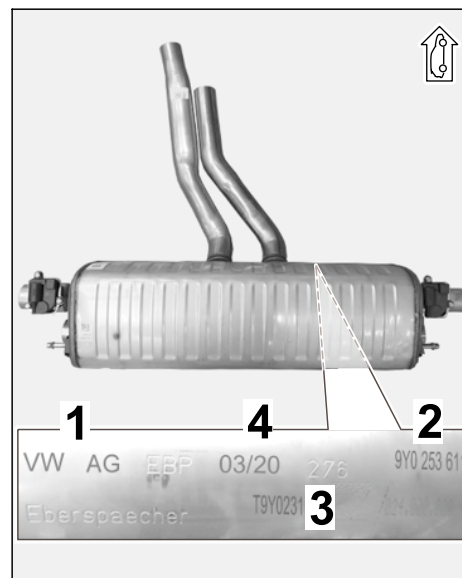

Figure 8
– Rear silencer (⇒ *Figure 8*):